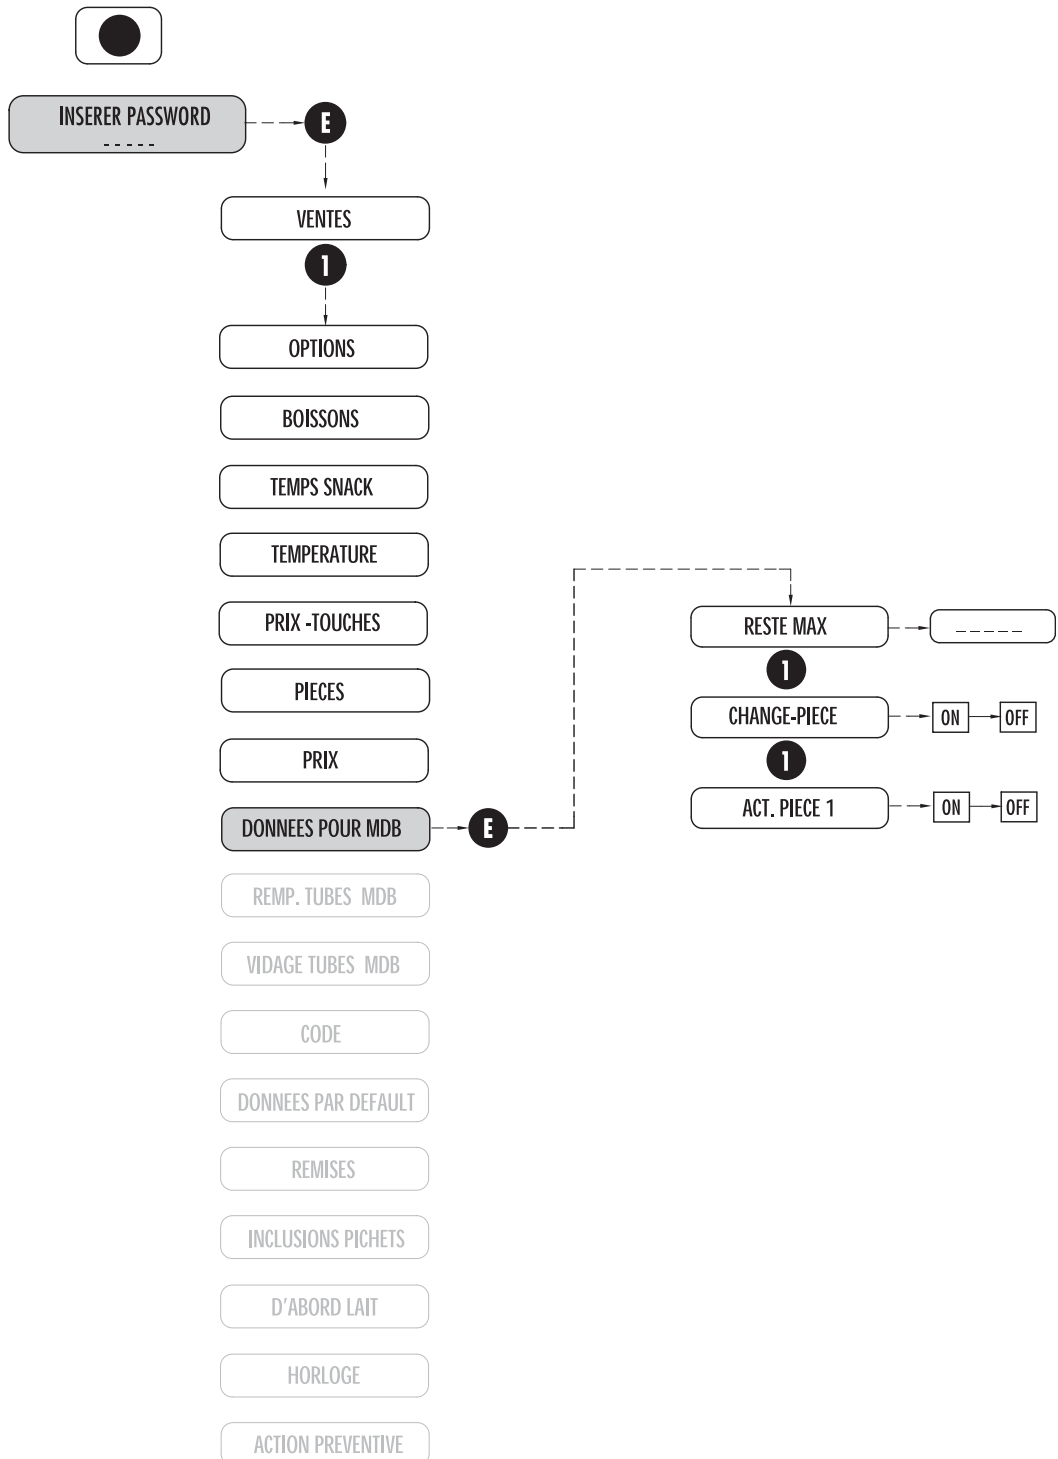

Fig. 7.12
7.2.9 DONNEES POUR MDB (Fig. 7.12)